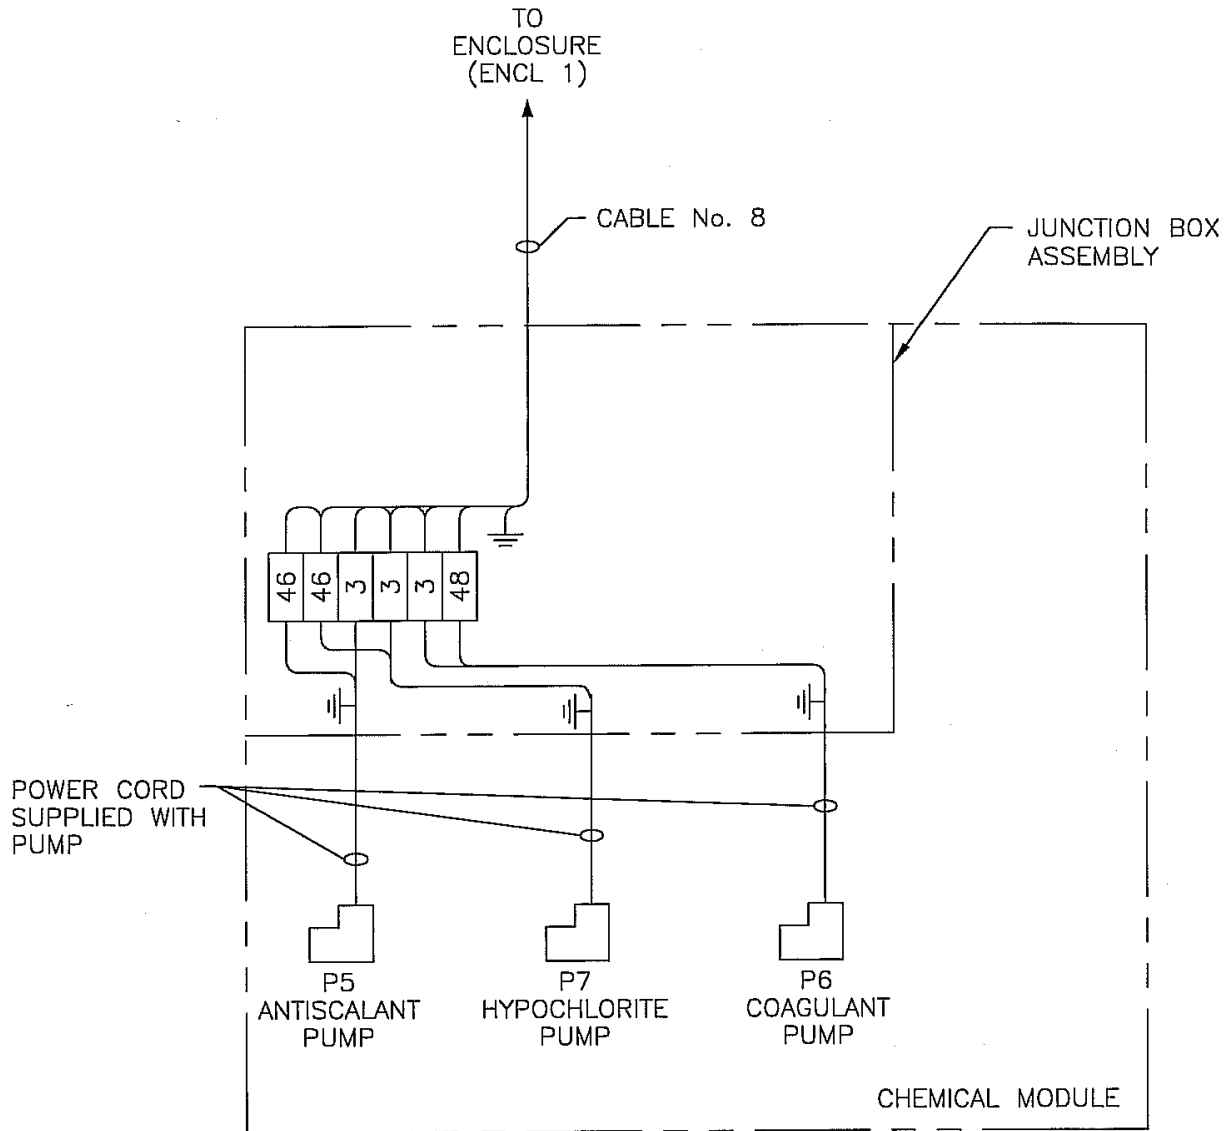

Figure 2. Wiring Diagram.
4. Note the location and the number of the wires. See Figure 2.